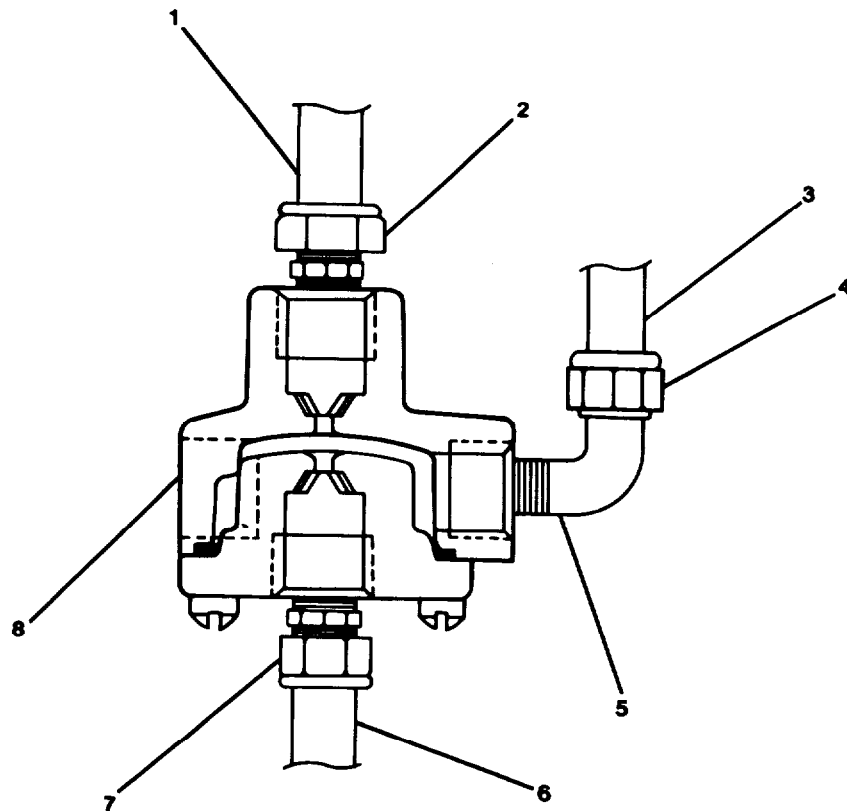
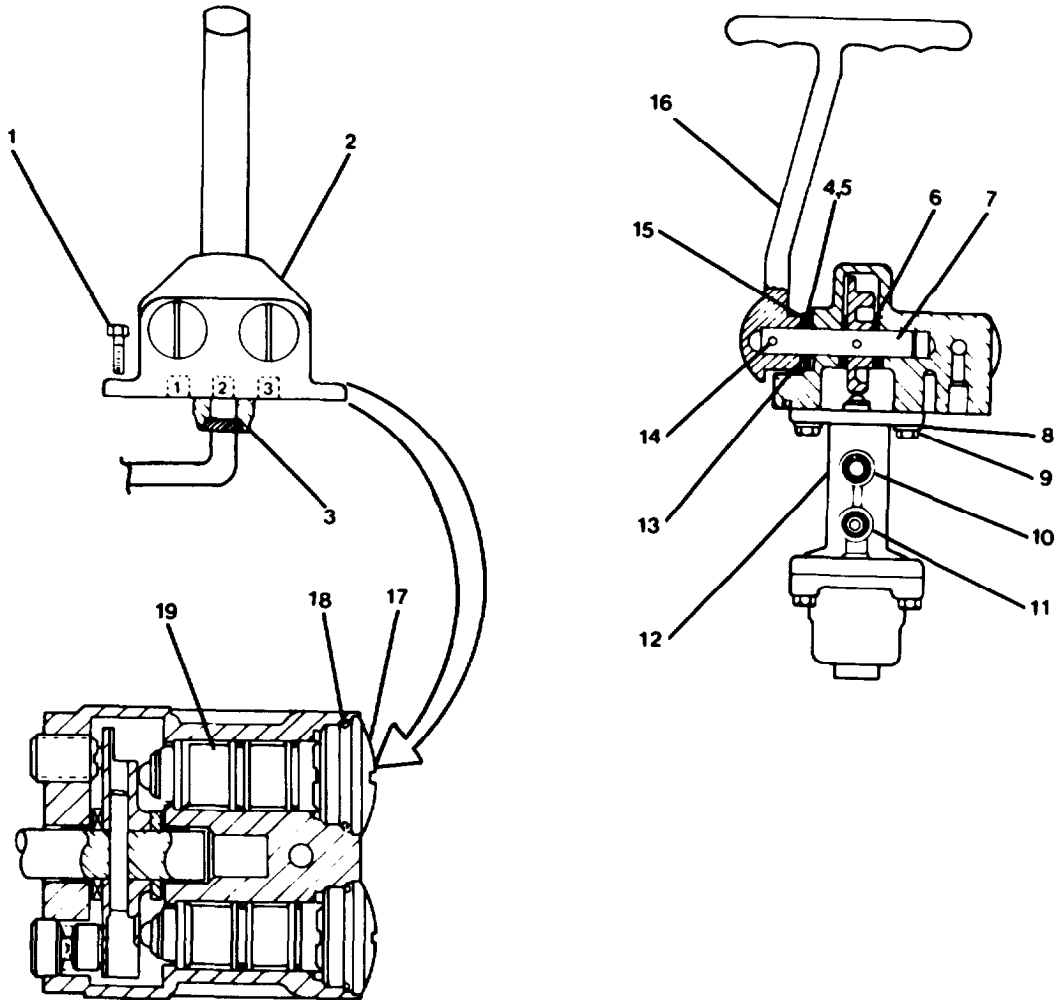

FIGURE 2-96. Shuttle Valve.
FIGURE 2-97. Directional Control Rotary Valve.
- a. Remove shuttle valve. (FIGURE 2-96)
- (1) Disconnect tubing (1, 3, and 6) at connections (2, 4, and 7).
- (2) Remove shuttle valve (8).
- (3) Unscrew and remove elbow (5).
- b. Remove Directional Control Rotary Valve (Pilothouse Control Station). (FIGURE 2-97).
- (1) Remove four capscrews (1).
- (2) Pull directional control rotary valve (2) up and out of control console until flexible hoses are accessible.
DISASSEMBLY (FIGURE 2-97)
Repair at this level of maintenance is by replacement of: shuttle valve (8, FIGURE 2-96), thrust washer bearing (4, FIGURE 2-97), roller needle bearing (5), spring tension washer (13), preformed packing (18), and poppet valve (19).
ASSEMBLY (FIGURE 2-97)**NOTE**
- a. Replace Directional Control Rotary Valve (Pilothouse Control Station). (FIGURE 2-97)
- (1) Connect flexible hoses at connections (3, 10, and 11). Remove tags.
- (2) Install directional control rotary valve (2) in pilothouse control console. Secure with four capscrews (1).
- b. Install Shuttle Valve. (FIGURE 2-96)
- (1) Screw elbow (5) into shuttle valve.
- (2) Position shuttle valve (8) for connection to tubing.
- (3) Connect tubing (1, 3, and 6) at connections (2, 4, and 7).